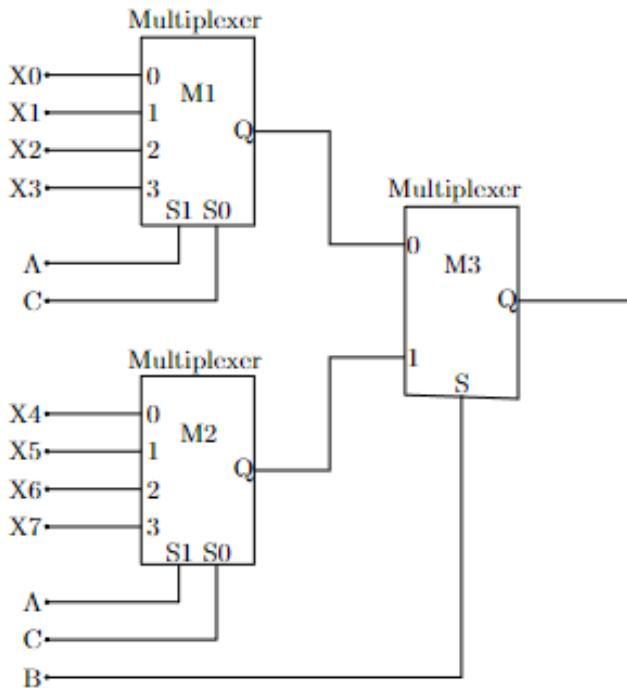

Fig. 3.14: Digital Circuit
- (A) $\overline{P \oplus Q} = P \odot Q$
- (B) $\overline{\overline{P} \oplus \overline{Q}} = P \odot Q$
- (C) $\overline{\overline{P} \oplus \overline{Q}} = P \oplus Q$
- (D) $(P \oplus \overline{P}) \oplus Q = (P \odot \overline{P}) \odot \overline{Q}$
26. A Boolean digital circuit is composed using two 4-input multiplexers ($M1$ and $M2$) and one 2-input multiplexer ($M3$) as shown in the Fig. 3.14. X_0 - X_7 are the inputs of the multiplexers $M1$ and $M2$ and could be connected to either 0 or 1. The select lines of the multiplexers are connected to Boolean variables A , B and C as shown.